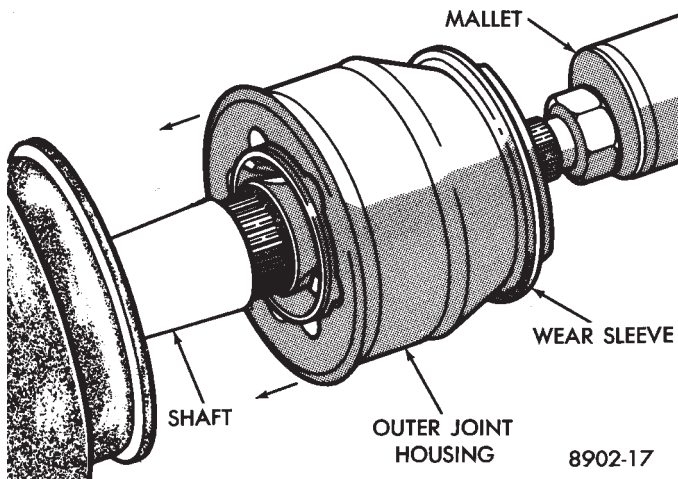

Fig. 9 Position Joint onto Shaft Splines
(11) Position outer joint on splined end with hub nut on stub shaft. Engage splines, and tap sharply with mallet (Fig. 9).